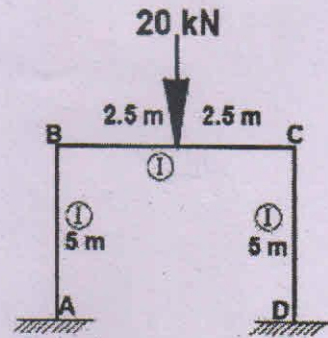

Figure 2
4. Analyse the portal frame shown in Figure 2 using moment distribution method. Draw the bending moment diagram (BMD). (15)